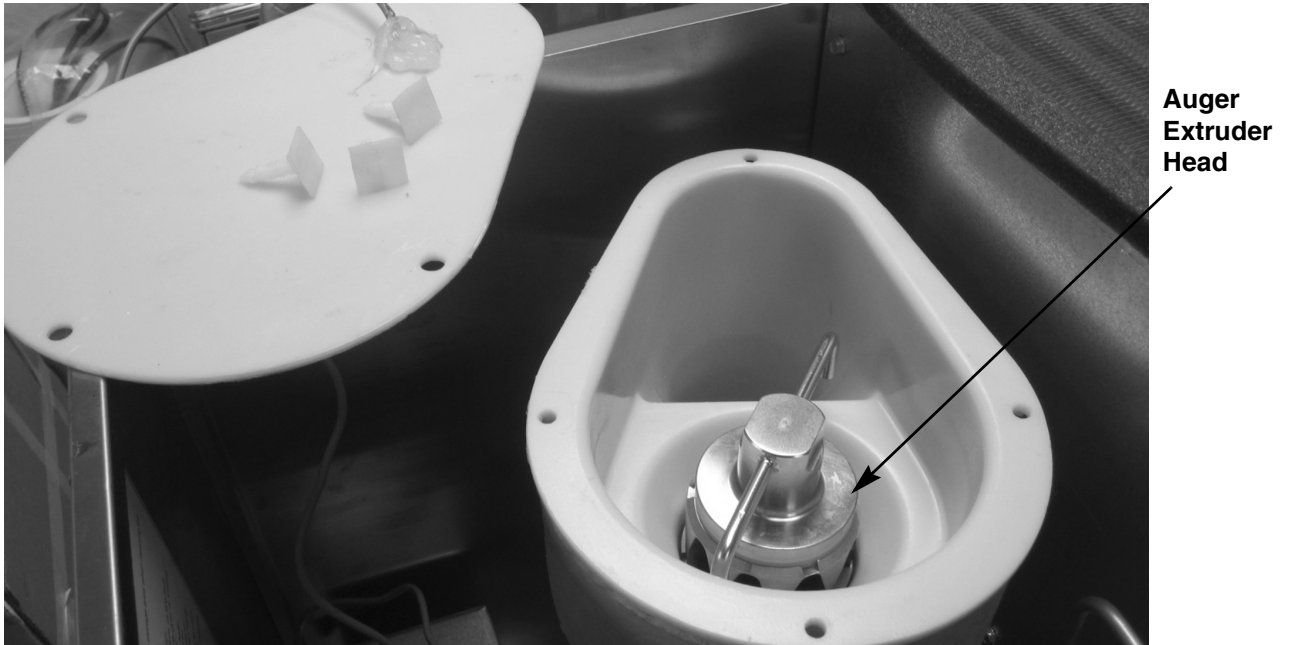

Figure 16
- Carefully rotate the extruder head until the tabs on the extruder head drop into the slots on the evaporator plate, as shown in figure 16. When the auger/extruder head assembly is rotated to the proper position, it will drop about 1/4 inch to more fully engage the motor drive shaft.